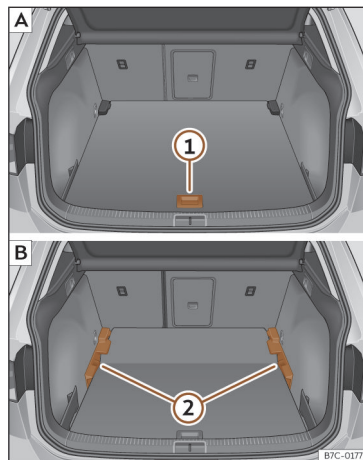

Fig. 161 Variable luggage compartment floor: **A** raised position; **B** lowered position.
- To move from the low position to the high position, lift the floor using the handle >>> **Fig. 161 ①**, and pull it back until the front of the floor has fully passed the supports **②**.
- Move the floor forward over the supports as far as the rear seat backrest and then lower the floor with the handle **①**.
- To move from the high position to the low position, lift the floor using the handle >>> **Fig. 161 ①**, and pull it back until the front of the floor has fully passed the supports **②**.
- Now let the front part fall to the floor and slide the floor forwards as far as the rear seat backrest; lower the floor at the same time with the handle **①**.
- Lift the variable floor in the high position using handle >>> **Fig. 161 ①**, pull it up and push it towards the backrest of the rear seats until it folds along the hinge line and the movable part of the floor is resting on itself.
- To move from the high position to the low position, lift the floor using the handle >>> **Fig. 161 ①** and pull it back a little.
- Push the variable floor towards the folded rear seats with the handle **①** using some downward pressure so that the moving part of the floor is flush with the backs of the rear seats.